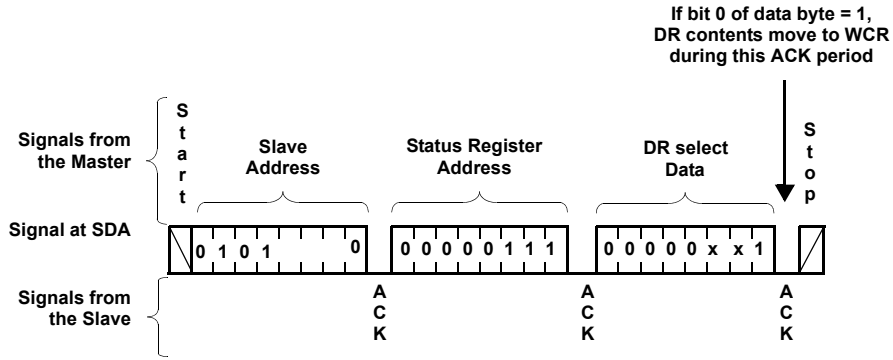

FIGURE 6. STATUS REGISTER WRITE (USES STANDARD BYTE WRITE SEQUENCE TO SET UP ACCESS TO A DATA REGISTER)
- 1. Load the status register (using a write command) to select the row.** (See Figure 6.)